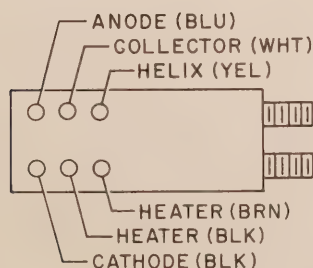

Figure 5-19. BWO Connections
c. Disconnect helix, collector, anode, and filament (brown) leads. See Figure 5-19 for BWO terminal arrangement and color code. Connect each lead through the loading resistor specified in Table 5-25 to chassis ground.
- (1) Monitor filament current (should be approximately 1 ampere). If there is no filament current, the filament is probably open. Disconnect 8551 from power source and check with an ohmmeter (such as the 410B/C or 412A); connect ohmmeter from heater (brn) to heater (blk) (see Figure 5-19). Filament resistance should be approximately 1 ohm.
- (2) Monitor helix current as TUNE is turned through its range from 2 to 4 Gc. (Should be approximately 1-1/2 to 4 mA maximum across the band, with current at high end of band typically near maximum.
- (3) Monitor helix current at high end of band. Assuming helix overload relay did not operate with TUNE at 4 Gc, set TUNE at 4 Gc and monitor helix current for 5 to 10 minutes to be sure that helix current does not increase with time.